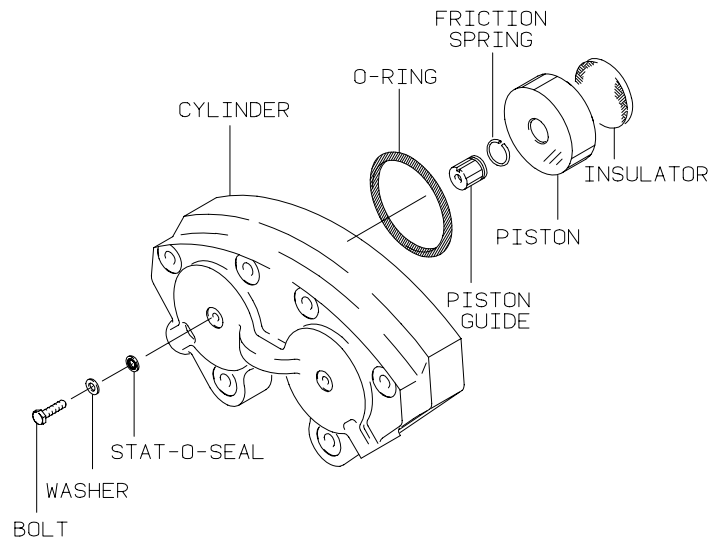

Figure 302 - Internal Piston Guide
- (j) Remove bleeder fitting (9), rubber caps, and o-rings from cylinder.
**NOTE:** Some designs have an internal piston guide (inside of the piston) attached to the cylinder by a bolt, washer, and Stat-O-Seal. It is recommended that this unit not be removed unless it is damaged or corroded. Ref. Figure 302. If Stat-O-Seal is removed, replace it. Do not reuse as it will not re-seal properly.